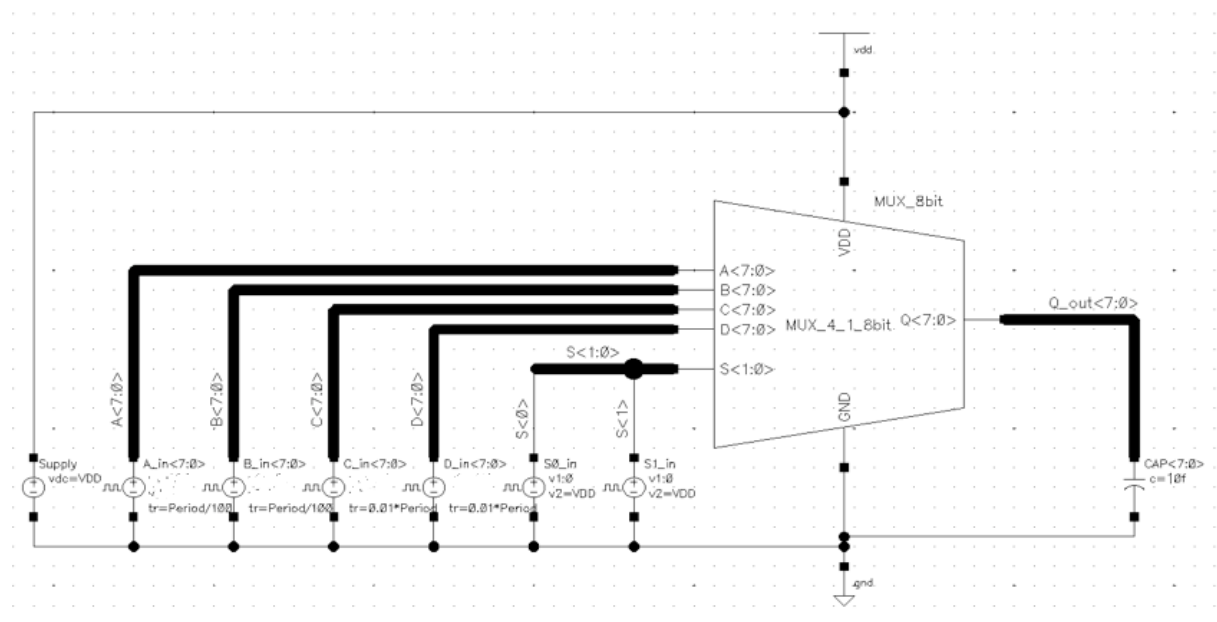

Figure 1 - Schematic View of the Testbench for the 8-bit MUX.
- ✓ Instantiate the symbol of the **MUX_4_1_8bit** that you have already generated in the previous session into the new schematic editor window. Then complete the schematic as shown in Figure 1.
- ✓ For **pulse generators** (**A_in<7:0>**, **B_in<7:0>**, **C_in<7:0>** and **D_in<7:0>**, **S0_in** and **S1_in**, as indicated in Figure 1) use **vpulse** component from **analogLib**. Check that names of the instances correspond to Figure 1, and that the properties correspond to the Table I.
- ✓ Use **Add→ Wire Name** or press **"I"** to place labels accordingly to the input/output signals as shown in Figure 1.
- ① Note from the Table I, that **VDD**, **Vsweep** and **Period** are defined as variables. Numeric values can be set directly here, as we did for **Voltage 1** of the pulse generators which is always equal to zero. We will set the actual numeric values of these variables later, when we launch the circuit simulations.
- ① Variable **Vsweep** will be used to gradually vary the voltage of the input S1, and observe the corresponding output voltage of the inverter within the MUX. This type of simulation is usually called **voltage sweep**.